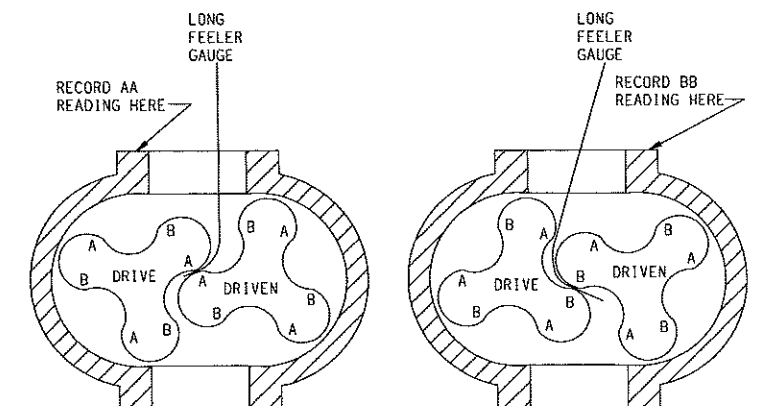

Figure 7 - Measuring Interlobe Clearances
24. Lay the unit down with the drive gear on the left. Using feeler gauges take interlobe readings and record on each side of housing as indicated in Figure 7. By removing or adding shim behind the helical gear, it rotates as it is moved in or out and the driven rotor turns with it, thus changing the clearance between rotor lobes. Changing the shim thickness .006" (.16 mm) will change the rotor lobe clearance .003" (.08 mm) or one-half the amount.
EXAMPLE: Referring to Figure 7, check the clearance at AA (left hand reading) and BB (right hand reading). If AA reading is .003" (.08 mm) and BB reading is .009" (.24 mm), by removing .006" (.16 mm) of shim, the readings will change one-half the amount removed or .003" (.08 mm). AA should then read .006" (.16 mm) and BB should read .006" (.16 mm). The final reading should be within .002" (.05 mm) of each other.